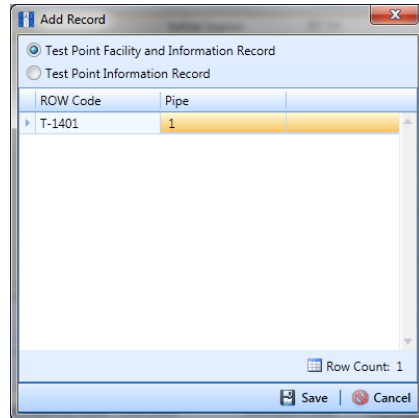

Figure 7-9. Add Record
- b Select the pipeline in the dialog box that you want to add a new facility and information record. For example, pipeline *T-1401* is selected in Figure 7-9.